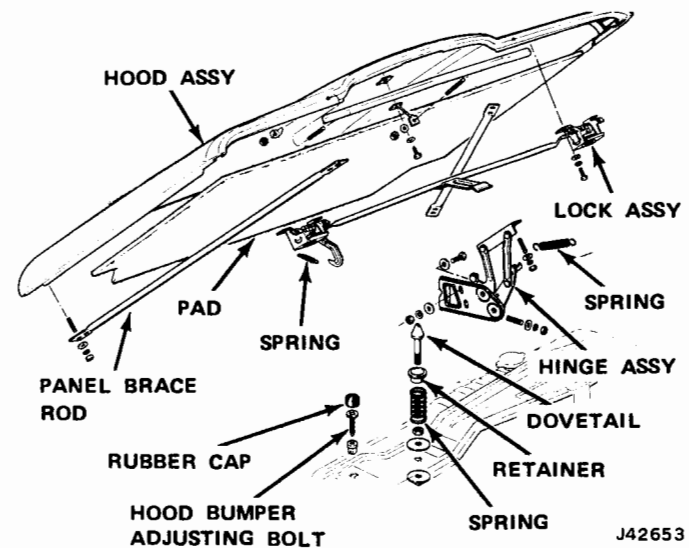

Fig. 14-15 Hood and Related Parts— Cherokee-Wagoneer-Truck
- (4) Disassembly of Cherokee, Wagoneer, and Truck hood is accomplished by removing hood lever lock assembly, front filler bezel, left and right hood panel brace rods, and insulation pad (Cherokee and Wagoneer) cemented to the hood panel (fig. 14-15).